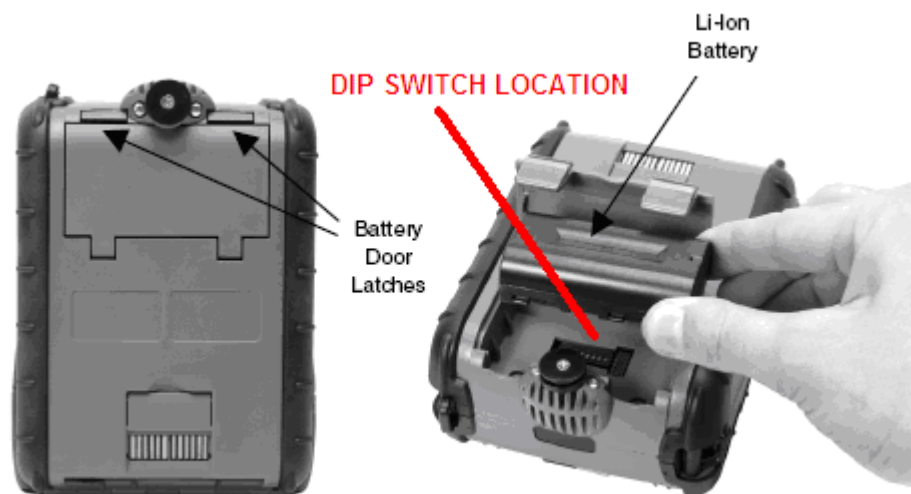

FIGURE 11 - DIP SWITCH LOCATION
- The ANDES 3 printer supports Serial RS232 and IrDA compatible infrared communication interfaces. Radio frequency (RF) Bluetooth™ communication is available as an optional feature as well as 802.11 interfaces.
- The DIP switch is located inside the battery compartment as illustrated below indicating the location of this switch. To access to the dip switches open the battery door and remove to battery to access to the DIP – SWITCH. Figure 11 shows the DIP – SWITCH location.